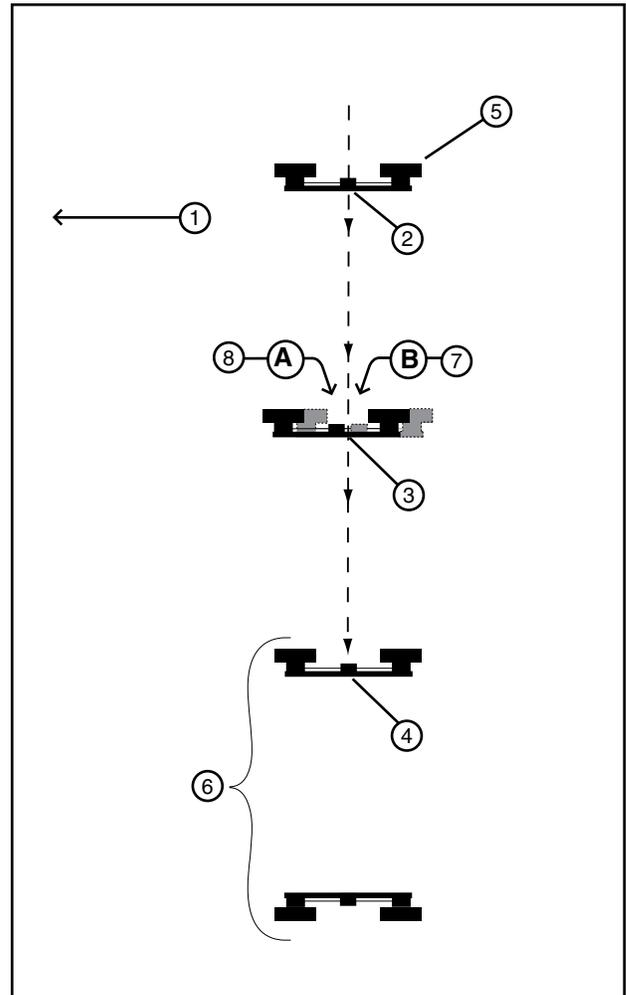

Figure 69-1 1. Direction of Travel 5. End Tower
2. Begin the alignment procedure from the end tower. Identify the first three towers as 1, 2, and 3. Use towers 1 and 3 to align tower 2. See figure 69-1.
3. Sight an imaginary center line between the center of the tower drive motor 1 to the center of the tower drive motor 3. See figure 69-1.
4. Observe the movement of the tower drive motor 2. It should start and stop equal distances from the imaginary center line. See figure 69-1.